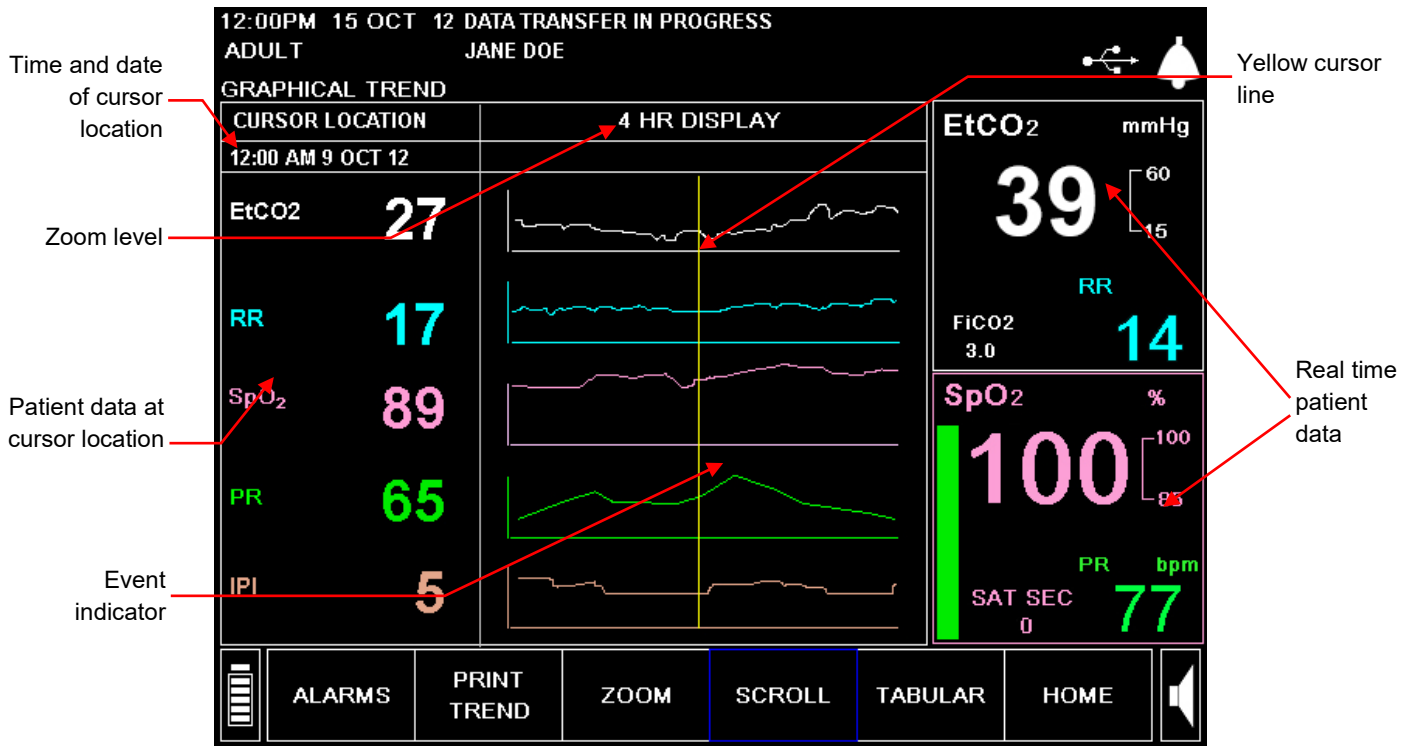

Figure 31 - Graphical Trend Display
1. From the Home screen, use the control knob to select *TREND* from the soft buttons in the menu bar at the bottom of the screen. The Graphical Trend screen, seen in Figure 31 - Graphical Trend Display, below, is shown.
- **Yellow cursor line:** The vertical yellow line extends through all four graphs and is movable with the control knob when the **SCROLL** option is selected. The cursor line shows the current location in the trend data, with the exact date and time listed under the **CURSOR LOCATION** heading near the top left of the screen as shown in Figure 31 - Graphical Trend Display on page 88.
To find an event or alarm occurrence, scroll the graphic display to look for event and alarm markers as shown above in Figure 31 - Graphical Trend Display on page 88. Place the yellow cursor line on the red alarm marker, then exit the scroll mode by clicking the control knob. When you zoom to a different time display, the cursor will appear in the middle of the graphical screen at the appropriate time that it marked on the previous screen.